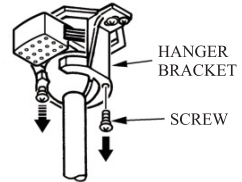

FIG.7
3. Remove one of screws and loosen the other screw from the hanger bracket. (see Fig.7)